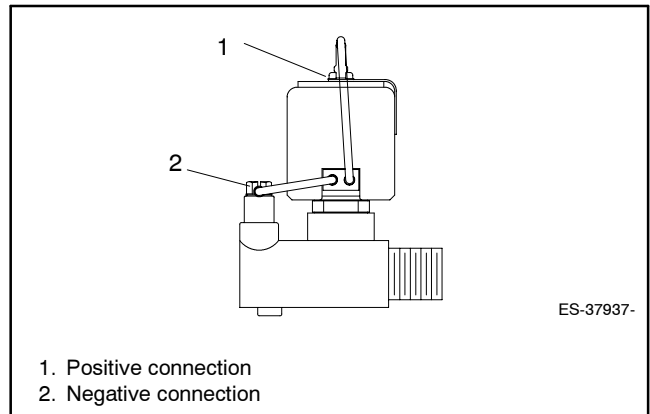

Figure 8 Fuel Solenoid Electrical Connections
- 6.5 Connect lead N to the fuel solenoid negative terminal. See Figure 8.